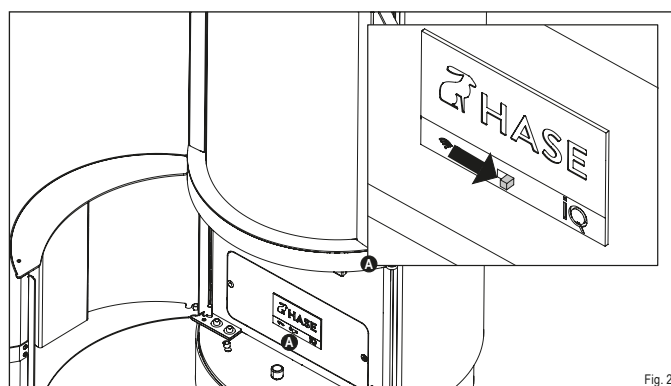

Fig. 2
- ▶ Set the switch on the control panel to "On" (Fig. 2).